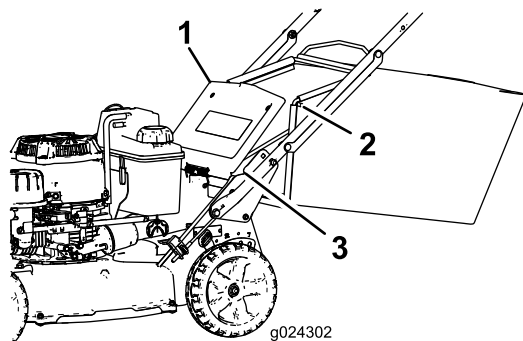

Figure 21
2. Raise and hold up the rear door (Figure 21).
4. Install the bag-rod ends into the notches at the base of the handle, and rock the bag back and forth to ensure that the bag-rod ends are seated at the bottom of both notches (Figure 21).
3. Remove the bag rod on the grass bag from the notches at the base of the handle (Figure 21).